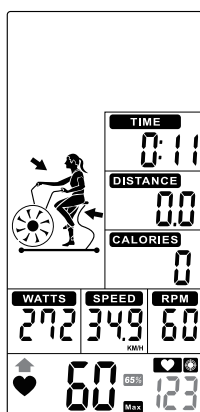

Figure 47
- ④ When Heart Rate goes below to 65%,  & **65%** & value will flash. And buzzer sounds in every 10s until user HR achieve above 65% (Figure 47).